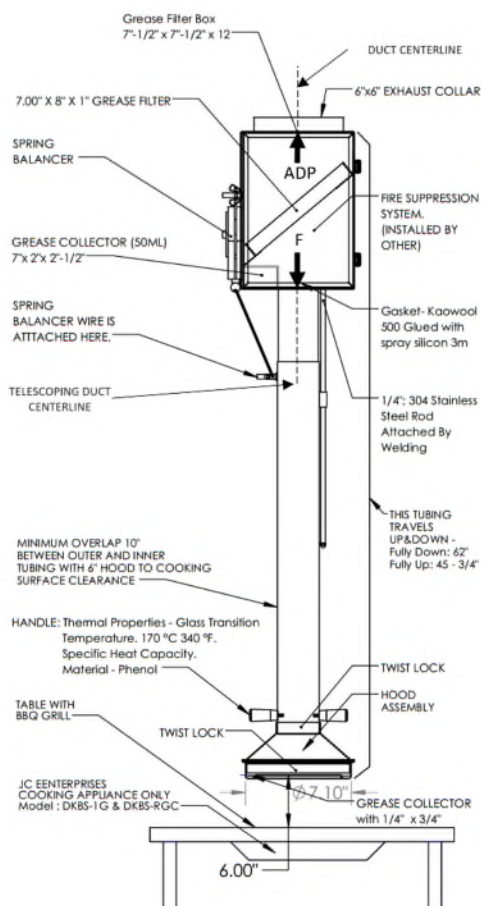

Figure 1 – Nozzle Location
Kidde Fire Systems recommends the protection illustrated in Figure 1 below, including one (1) F nozzle for the cooking surface and one (1) ADP nozzle for the filter box. The F nozzle must be located at the interface between the bottom of the grease filter box and telescoping hood assembly opening, aimed vertically downward, and centered in the opening of the telescoping duct. The ADP nozzle must be located at the interface between the top of the filter box and exhaust duct collar, aimed vertically upward, and centered in the duct.